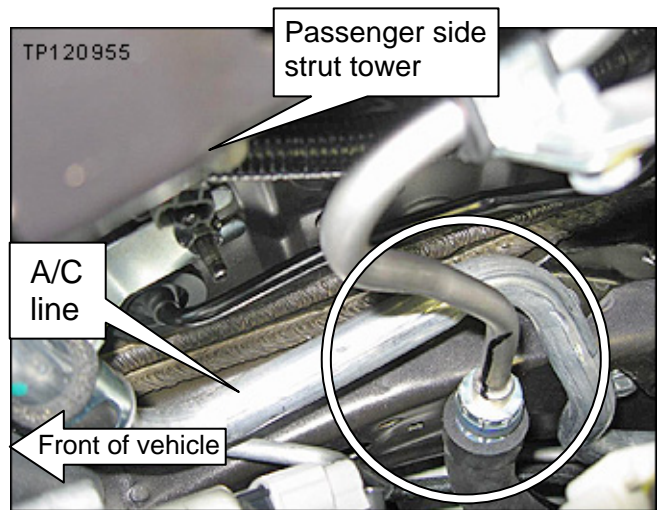

Figure 8
**NOTE:** The view in Figure 8 is downward from the inboard side of the passenger side strut tower.
- a. Check the location circled in Figure 8.